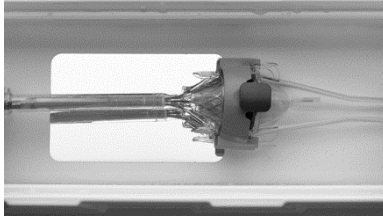

Figure 40
11. Advance the capsule to capture the bioprosthesis outflow struts (Figure 40).